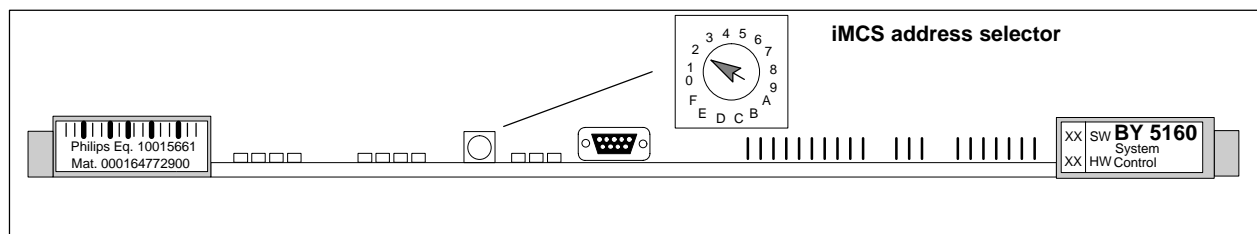

Fig. 504: Address selector
3. Set the hex-decimal switch (**iMCS address selection**) on the upper board BY 5160 (System Control) to the desired position "0, 1, 2, 3" (Fig. 504).